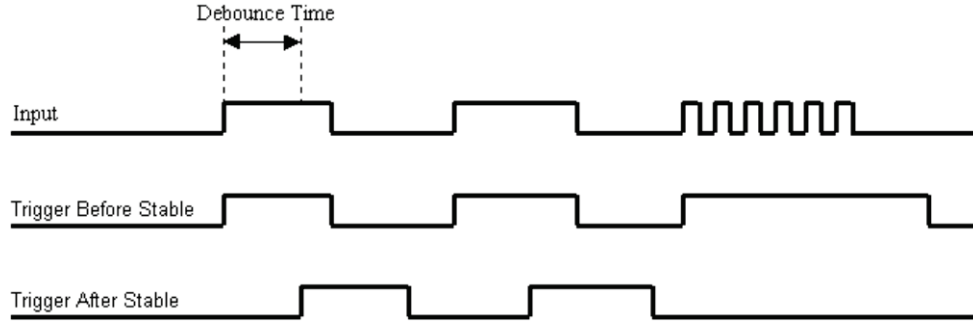

Figure 11. Optimal debounce time for trigger after stable mode
*Trigger after stable* mode behaves more like a traditional debounce function: rejecting glitches and only passing state transitions after a required period of stability. *Trigger after stable* mode is used with electro-mechanical devices like encoders and mechanical switches to reject switch bounce and disturbances due to a vibrating encoder that is not otherwise moving. The debounce time should be set short enough to accept the desired input pulse but longer than the period of the undesired disturbance as shown in Figure 11.